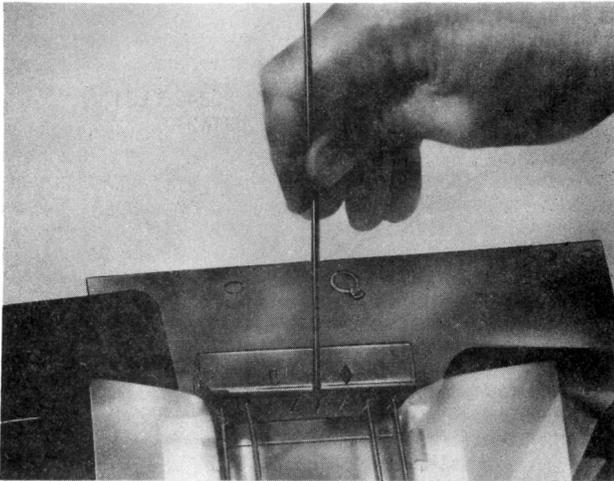
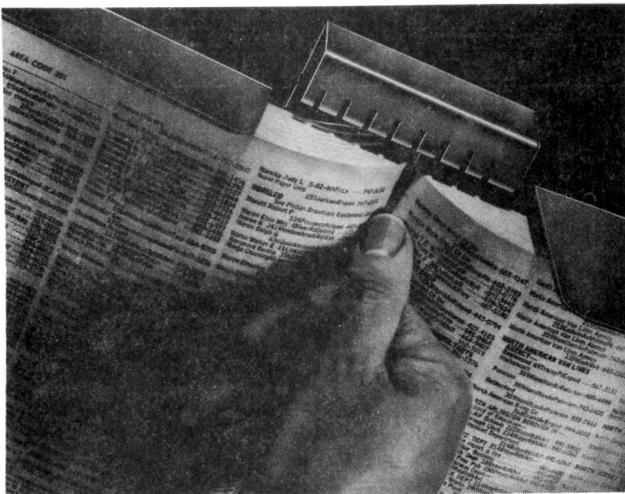

Fig. 26—▶Installing KS-21435, List 11 Support Rod◀
Fig. 27—▶KS-21435, List 11 Support Rod in Place◀
3.25 Support rods (5), furnished as KS-21435, List 11 are installed in the upper part of the binder as shown in Fig. 26. Rod is then snapped into place at the other end as shown in Fig. 27.